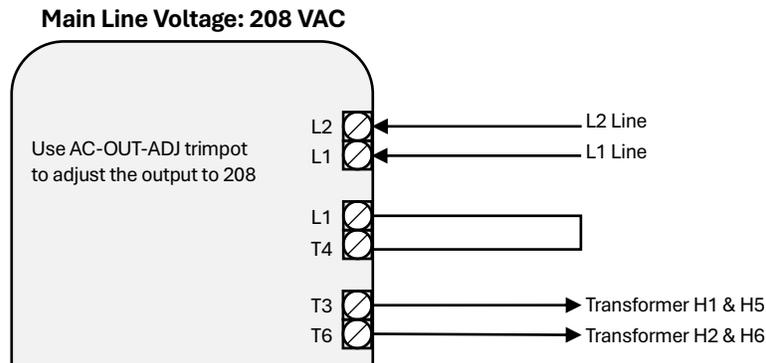
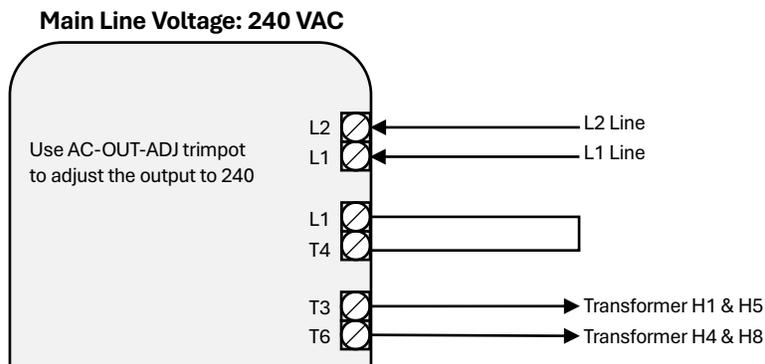
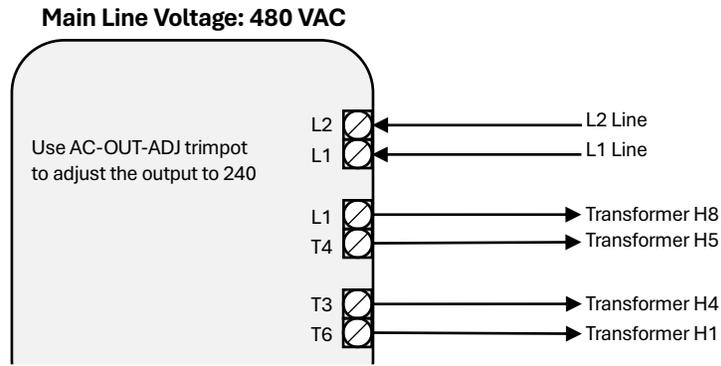

Figure 7: 208 VAC Wiring
Figure 8: 240 VAC Wiring
Figure 9: 480 VAC Wiring
- ◆ **L1, T4, T3, T6:** External connections based on incoming main line power [see Figure 7, Figure 8, and Figure 9].